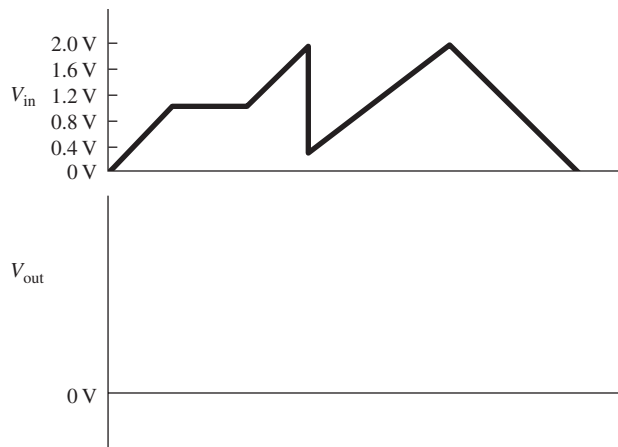

Figure P10
10. If the input waveform (V_{in}) shown in Figure P10 is fed into the Schmitt trigger described in Problem 9, sketch its output waveform (V_{out}).